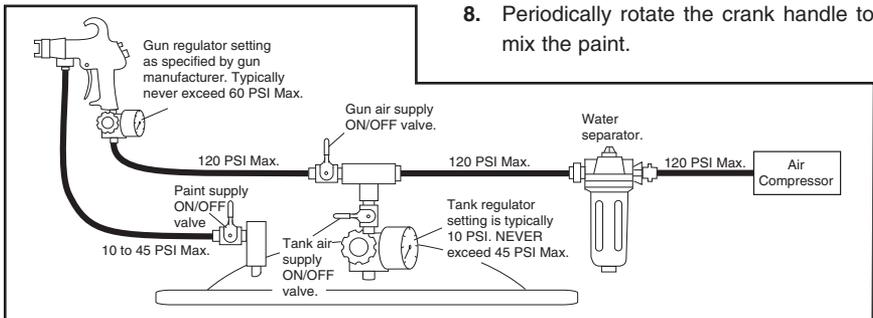
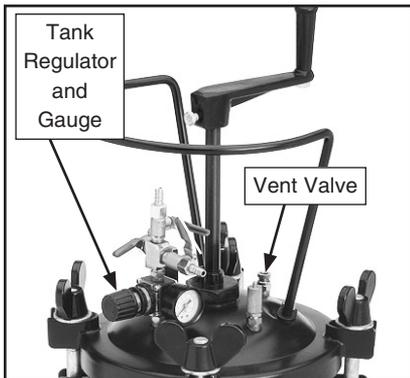

Figure 5. Paint tank connect to air compressor and spray gun.
Figure 6. Regulator and vent valve.
1. Open the vent valve (**Figure 6**) to exhaust any tank pressure, and observe the tank regulator gauge (**Figure 5**) to make sure the tank un-pressurized.
2. Open the vent valve (Figure 6) to exhaust any tank pressure, and observe the tank regulator gauge (Figure 6) to make sure the tank is un-pressurized.